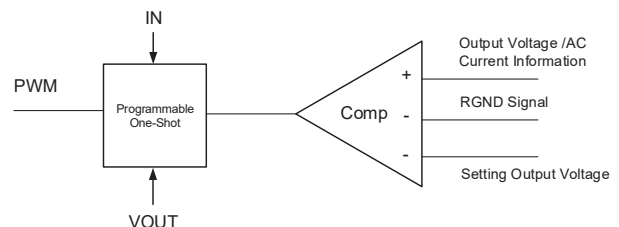

Figure 2. Simplified Control Schematic of AOZ23655RQ1
The simplified control schematic is shown in Figure 2. The high-side switch on-time is determined solely by a one-shot whose pulse width is inversely proportional to input voltage (IN). The one-shot is triggered when the internal setting output voltage is higher than the combined information of output voltage and the AC current information of inductor and load line signal, which is processed and obtained through the sensed low-side MOSFET current once it turns-on. The added AC current information can help the stability of constant-on time control even with pure ceramic output capacitors, which have very low ESR. The AC current information has no DC offset, which does not cause offset with output load change, which is fundamentally different from other V^2 constant-on time control schemes.